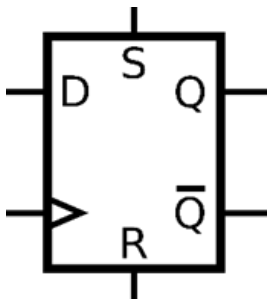

Figure 23
A common flip flop is shown in Figure 23.
a) Input D is edge triggered. Explain what this means and use Figure 23 to determine which edge it is triggered by.